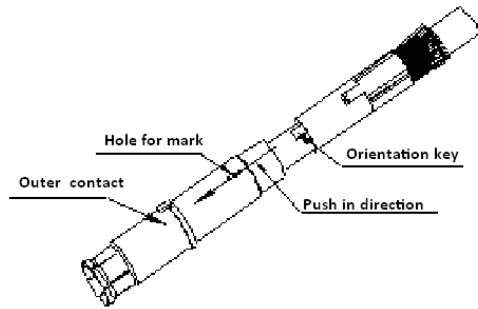

Fig 2.12
- 10) Socket assembly must be aligned with the hole for mark on outer contact and push in outer contact, then forward the crimp ferrule as illustrated, as fig 2.12, 2.13, 2.14 shown.
- 5) Socket assembly must be aligned with the hole for mark on outer contact and push in outer contact, then use hand screw the bushing to compress the insulator as illustrated, fig 2.12, 2.13, 2.14 shown. (Note: Do not use tool to screw the bushing, avoid to damage the insulator)